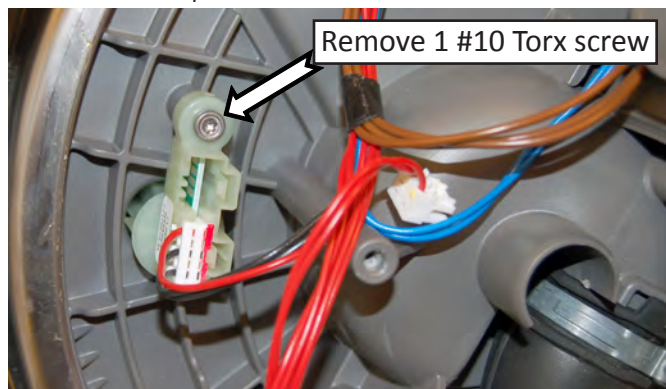

Figure 1
3. Remove 1 Torx screw, see figure 1. (Diverter assembly removed for open view of sensor.